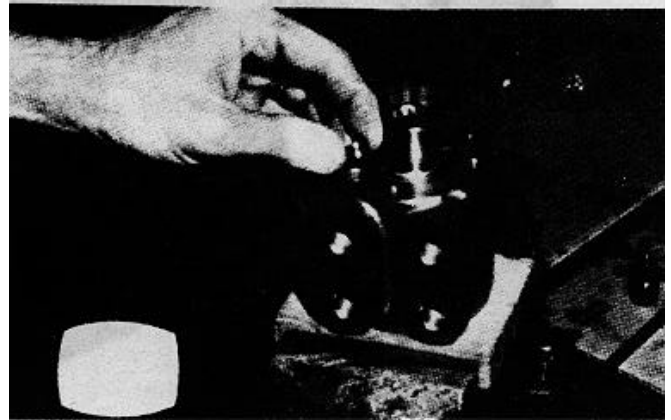

FIGURE 9-47
l. Check the condition of the o-ring seal on the check plug and replace it if necessary. Install the check plug in the check hole with a steady pressure while rocking it slightly so that the o-ring feeds in smoothly without cutting (see figures 9-47 and 9-48).